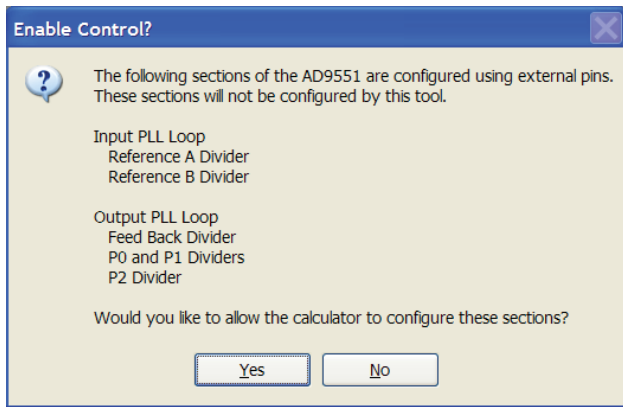

Figure 17. AD9552 Serial Port Programming Warning
5. The **Enable Control?** window, shown in Figure 17, appears.